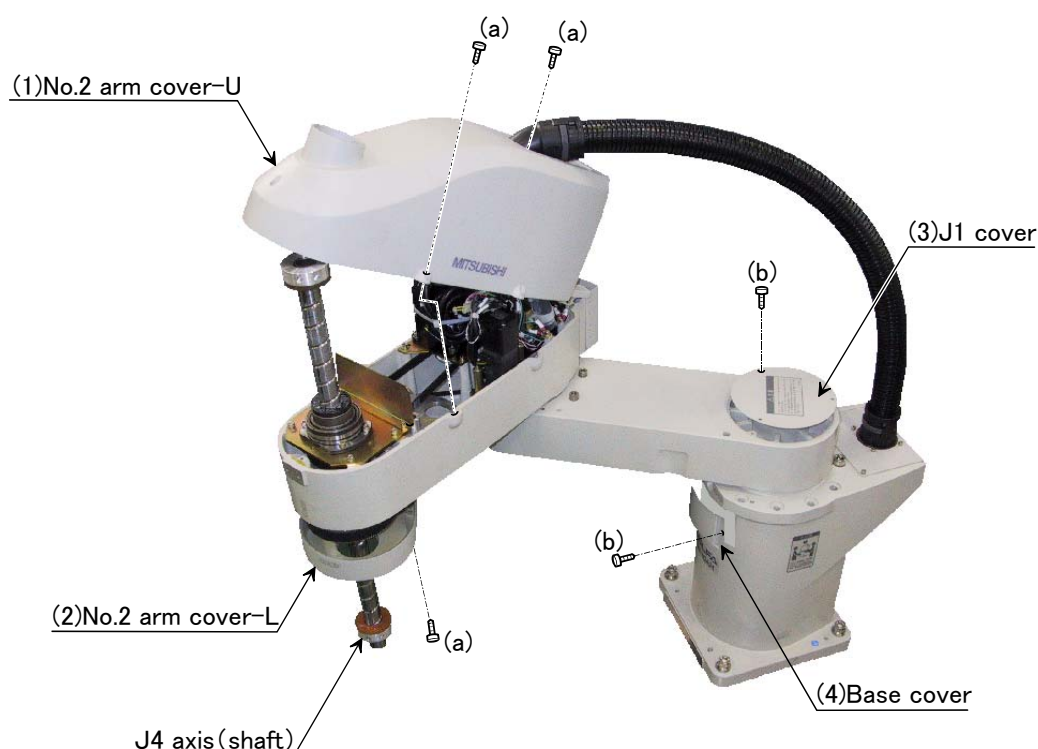

Fig.5-3 : Installing/removing the cover
- (1) Referring to Fig. 5-3, remove the covers.
- (2) Table 5-3 lists the names of the covers and installation screws.
- (3) Lower the J4 axis (shaft) using jog operations before removing the No.2 arm cover-U.
- (4) When reattaching the covers after a maintenance inspection, proceed in the reverse order of their removal.
- 2) Refer to Fig. 5-3, and remove the No.2 arm cover-U.
- 2) Refer to Fig. 5-3, and remove the No.2 arm cover-U and No.2 arm cover-L.